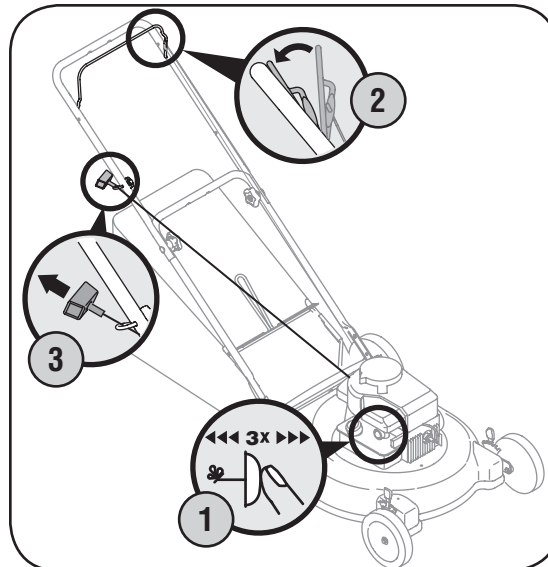

Figure 4-2: Starting the Briggs & Stratton/ Tecumseh engine.
1. Push primer three times. Wait about two seconds between each push. See Figure 4-2. In temperature around 55° F or below, prime five times. Do not prime to restart a warm engine.
3. Holding these two handles together firmly, grasp recoil starter handle and pull rope out with a rapid, continuous, full arm stroke. See Figure 4-2. Keeping a firm grip on the starter handle, let the rope rewind slowly. Repeat until engine cranks. Let the rope rewind each time slowly.